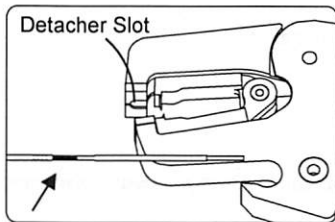

**Figure 9**
28. While maintaining the position of the eCLIPs™ Microcatheter, push on the eCLIPs™ Hypotube to advance the proximal end of the eCLIPs™ Device past the aneurysm neck until the Proximal Leaf Markers are distal to the aneurysm neck. Ensure the eCLIPs™ Device is in the correct rotational orientation as shown in Figure 9. Re-sheath and re-deploy as required.